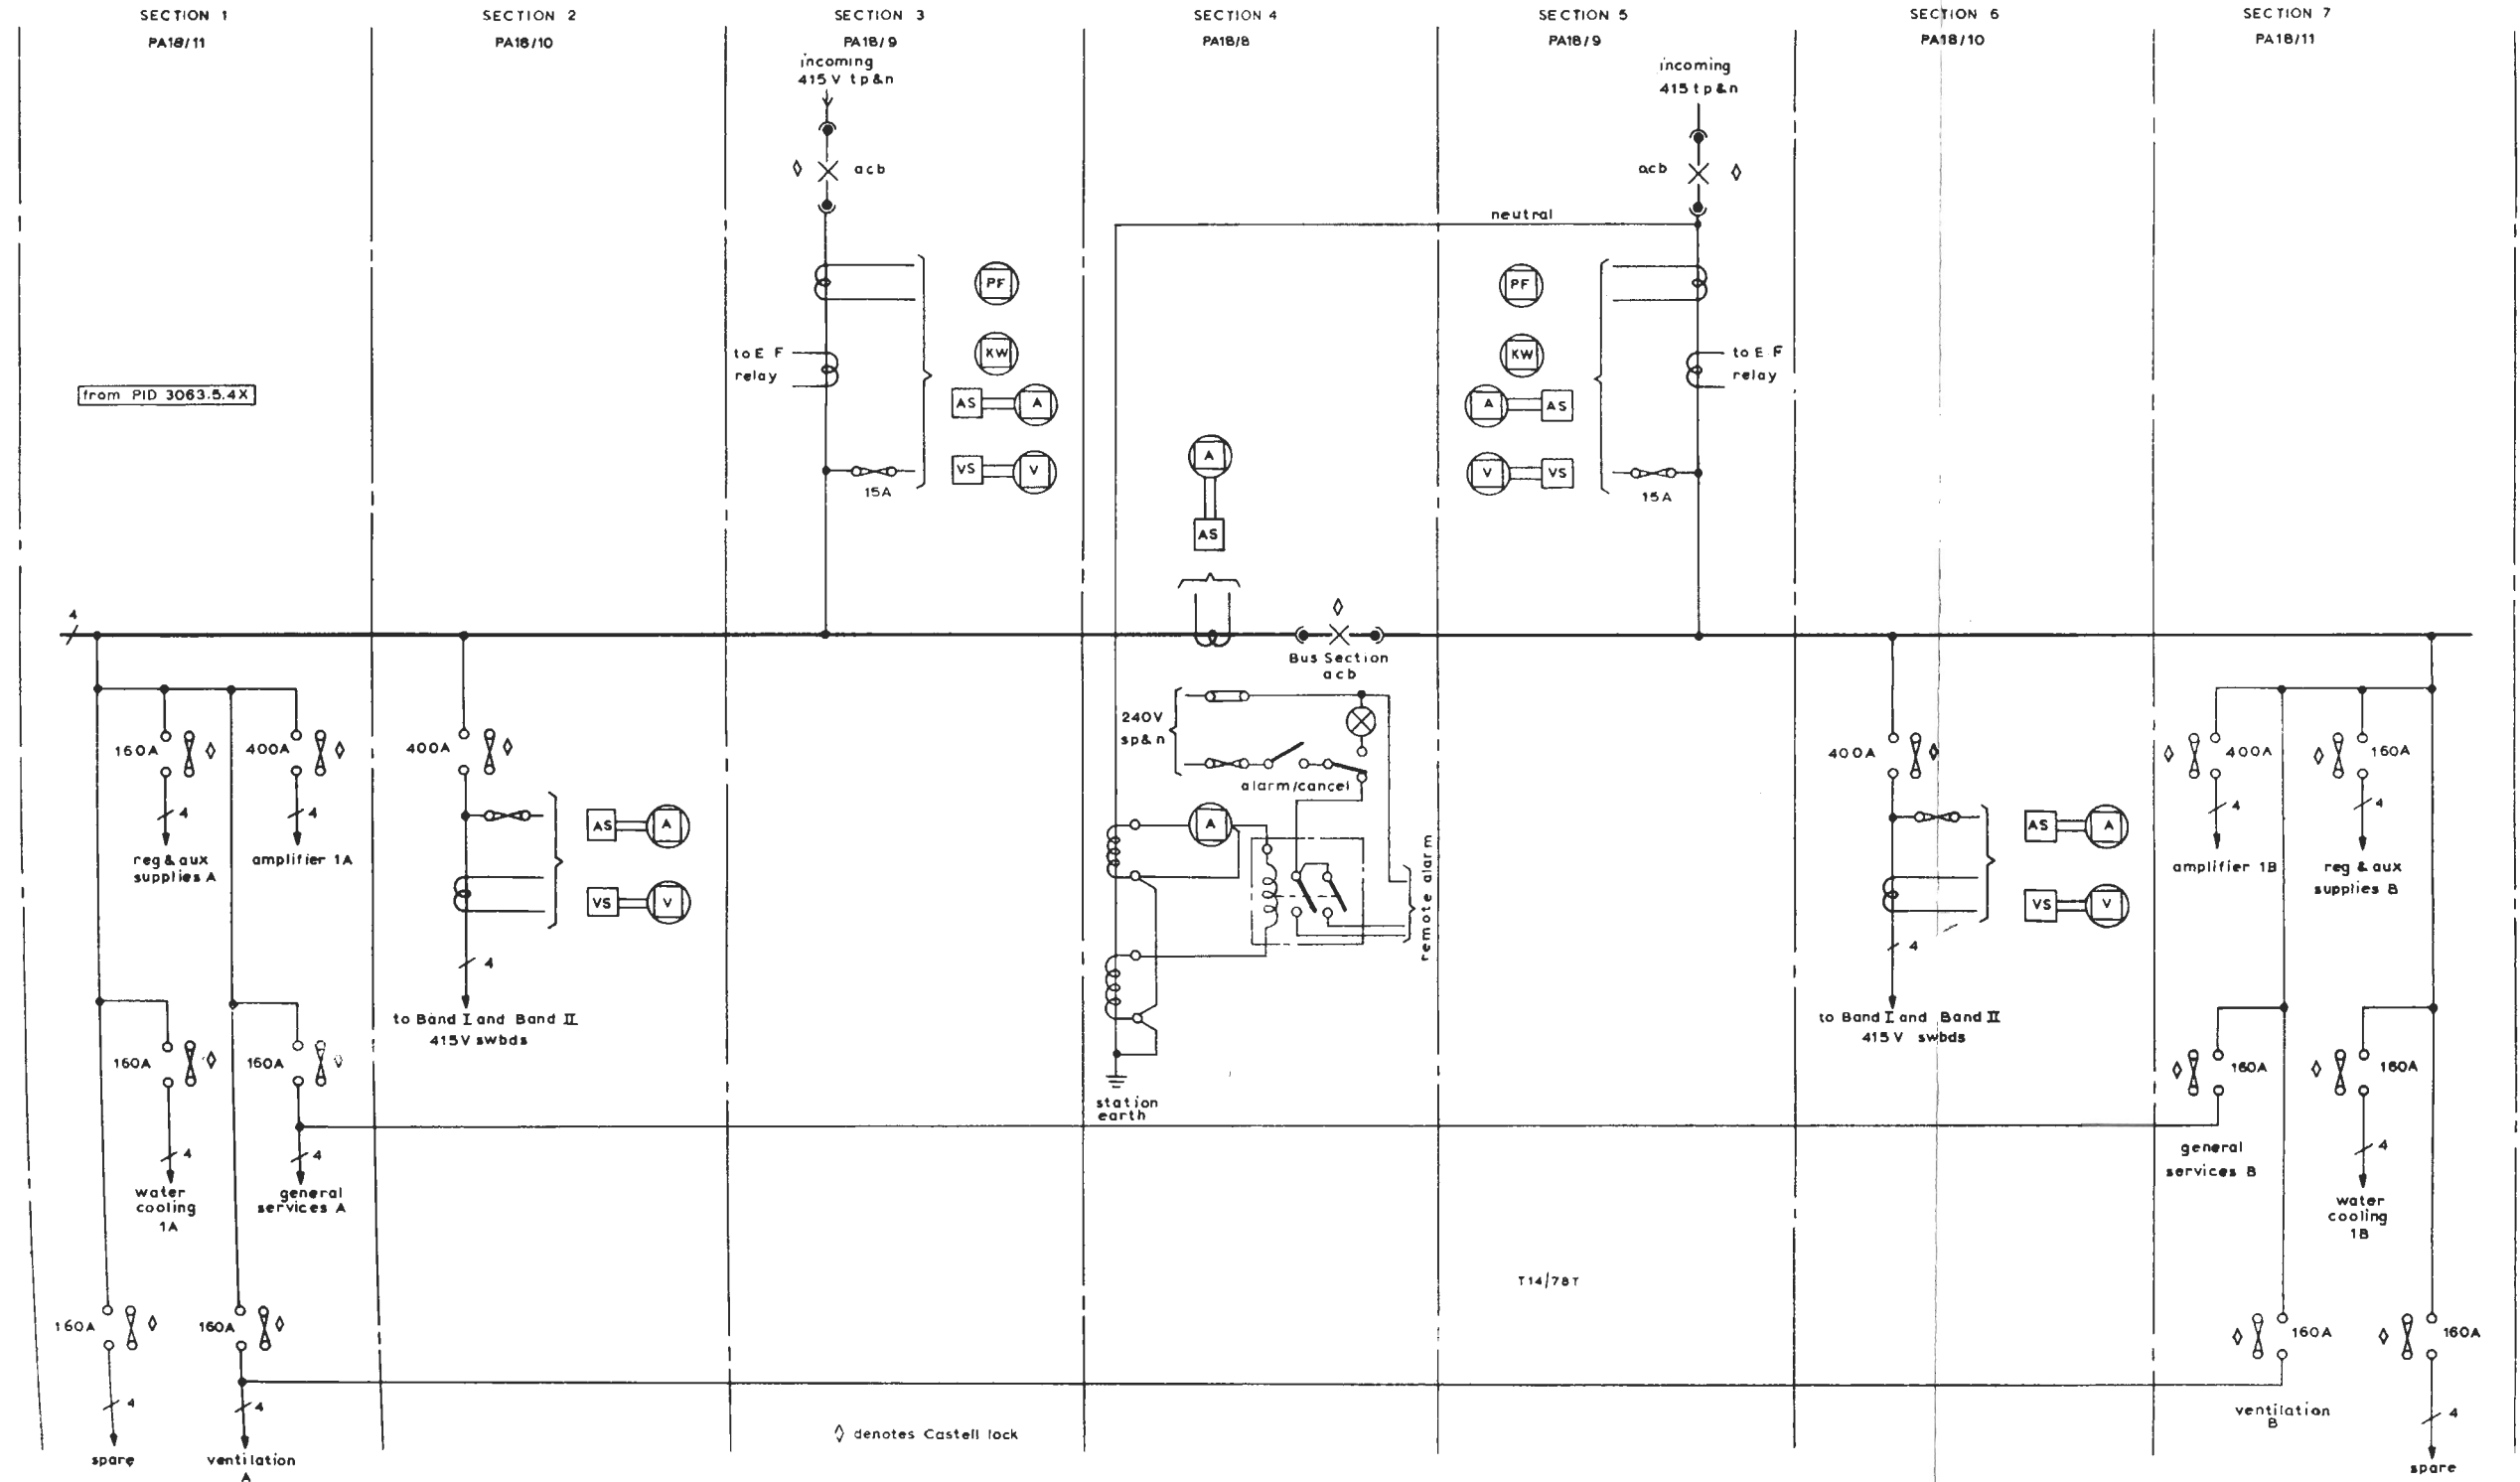

Fig. 1 Power Switchboard Equipment EP13/2: Schematic
This board is made up of seven sections as shown in Fig. 1. The two incoming feeds are controlled
*See page 3 for Fig. 1*